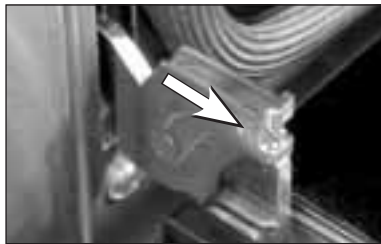

Fig. 23
2. Unlock the door hinges by rotating the lock forward (Fig.23).